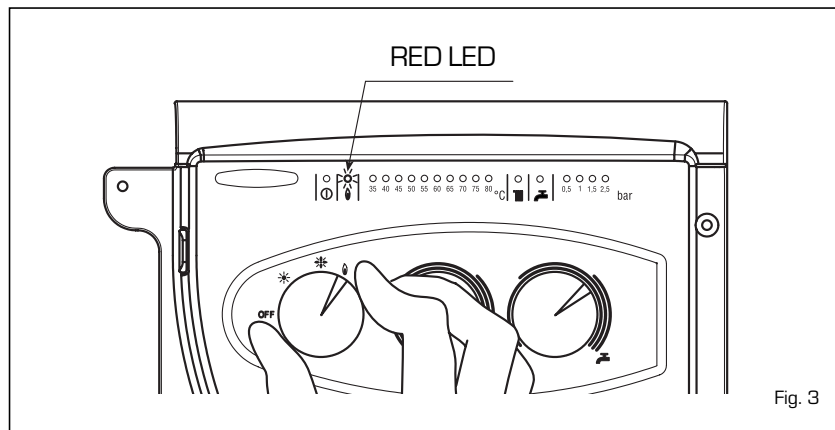

Fig. 3
**Ignition lock-out (fig. 3)**